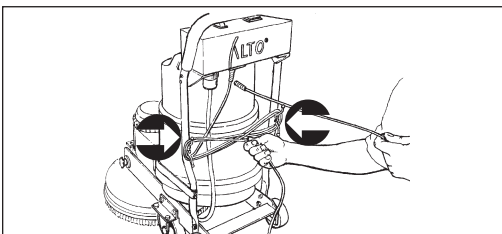

Figure 11
9. Wrap the vacuum cord around the cleats located on the back of the handle. Leave enough slack in the cord to plug into the electric box. Turn the vacuum switch to the "ON" position. The vacuum switch should remain in the "ON" position. (See Figure 11 below)